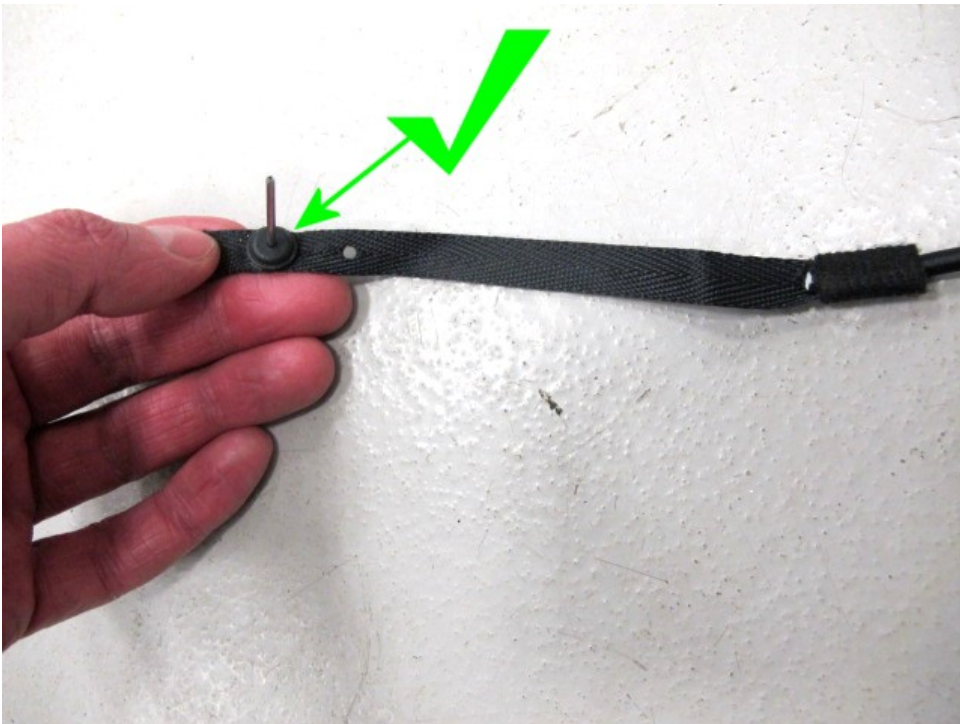

Figure 5
- Referring to Figure 5 - Insert the rivet/washer through the top hole of the tensioning strap (long strap end)